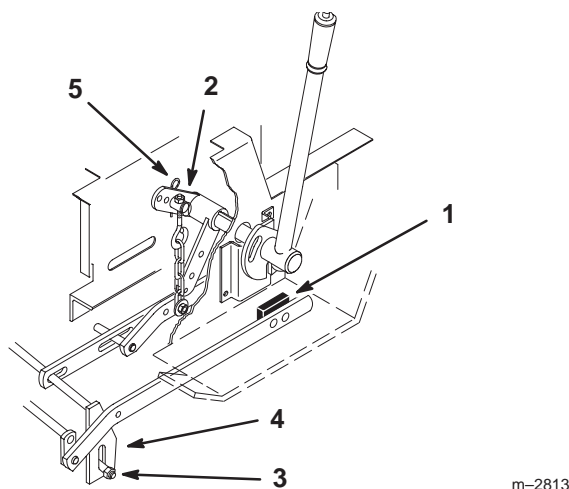

Figure 19
- If the bumpers do not contact footrests, adjust the lift chain by turning the nut on the eyebolt in the rear hole of tractor lift (Fig. 19). Turn the nut clockwise to raise the mower or counterclockwise to lower it.